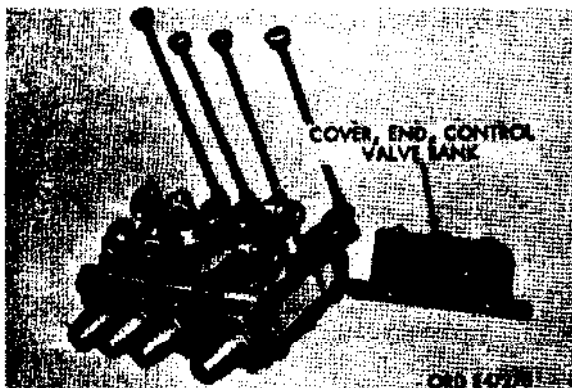
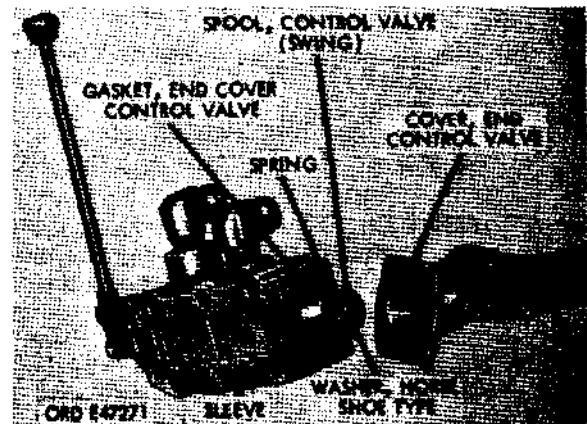
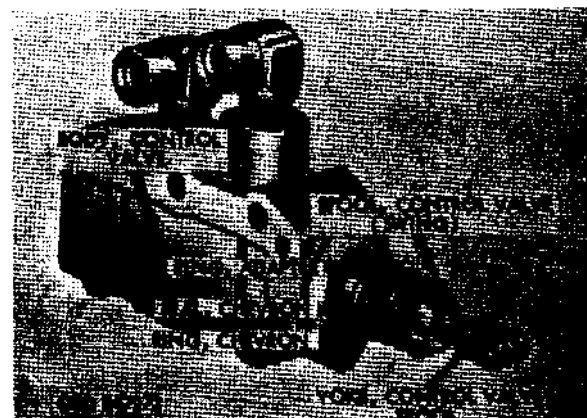

Figure 483. Control valve bank end cover separated from control valve bank assembly
Figure 484. Removing control valve end cover
Figure 485. Control valve spool and chevron seals removed
- (2) Disassemble control valve bank assembly. Remove six hex-nuts and nuts and lockwashers from end of control valve bank assembly and remove control-valve bank end cover (fig. 483). Separate valve bank into individual control valves.
(3) Disassemble individual control valve.
- (a) Remove four cap screws (W) and washers and lift off control valve end cover (TT) and gasket (fig. 484).
- (b) Compress spring slightly and remove horseshoe-type washer (fig. 484), spacer, spring, and plain washer from rear end of (swing) control valve spool.
- (c) Remove cotter pins from the two lever retaining pins and take off control valve lever (P) and linkage from front end. of control valve. Remove cap screw (H) beneath control valve spool and eyebolt (R) above control valve spool. Take off control valve spool, front cover (F).
- (d) Slide control valve spool together with adapter ring (Z), chevron ring (M), and three chevron seals (E), out through front end of control valve body (fig. 485).
- (e) Remove control valve spool yoke (fig. 485) and locking nut (Y) from end of (swing) control valve spool (D).
- (1) Cleaning. The control valve bank assembly must be treated with care. A clearance of 0.0002 to 0.0004-inch
- (b) Drum shaft keys (fig. 483). Remove two square keys and plain thrust washers from drum shaft.